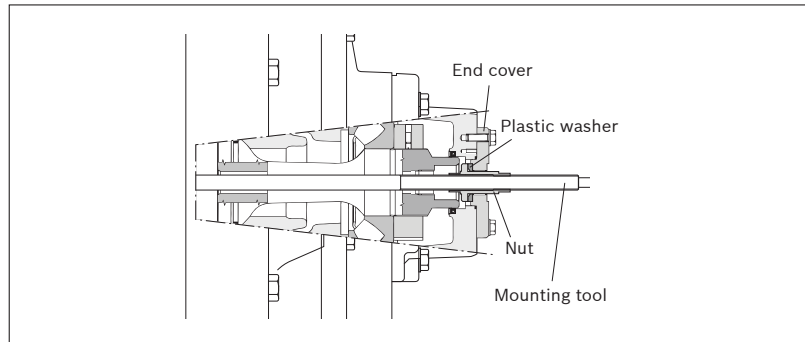

Fig. 3.22: Removal of MA 141–200 and MB 283–800
- Screw in the nut of the tool until the end cover can be refitted; see Fig. 3.22.